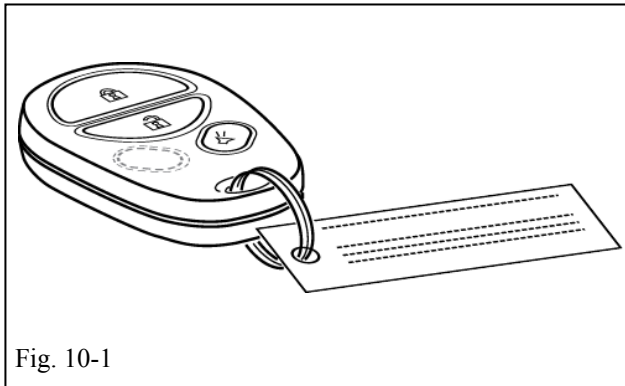

Fig. 10-1
- (1) Use a Utility Knife, to cut a slit in each bag.
- (b) Attach the Remote Engine Starter Key Tags to the Vehicle Remotes. (Fig. 10-1)